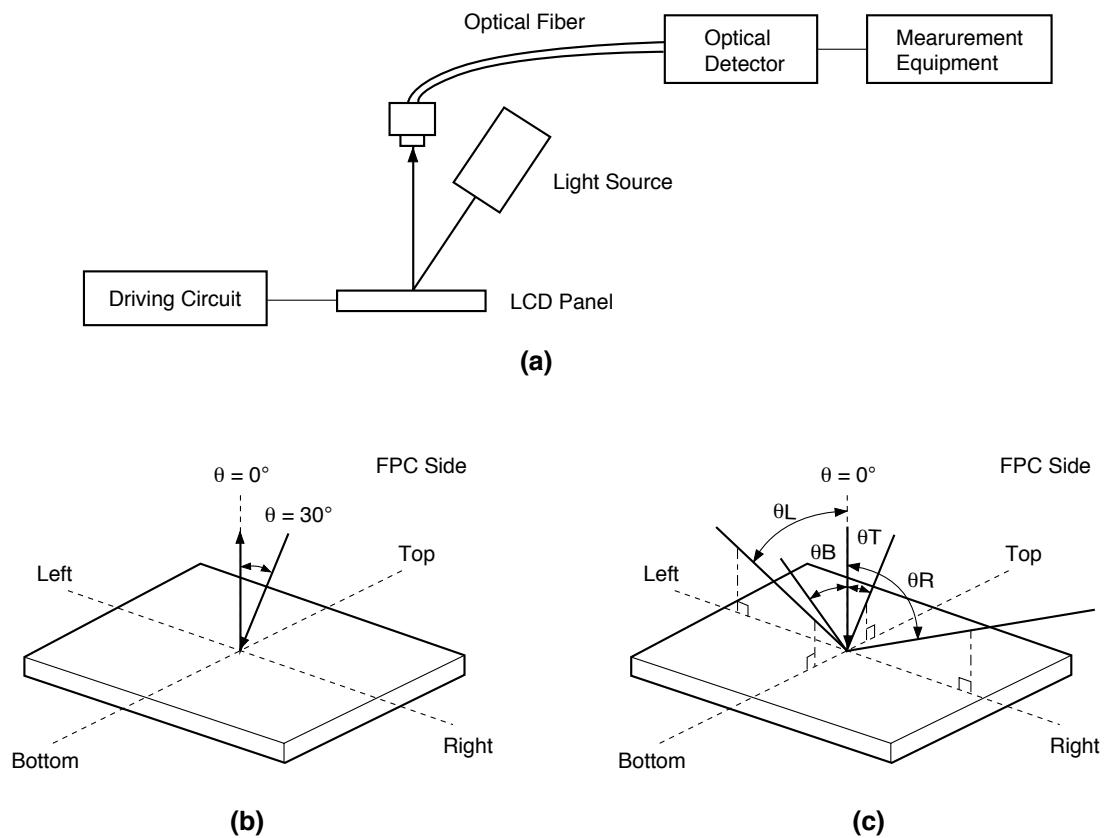

Fig. 1. Measurement System-1
1. Reflectivity (R)
In the system-1 (see Fig. 1 (a), (b)), calculate the reflectance factor by using the formula (1).
2. Contrast Ratio (CR)
In the system-1 (see Fig. 1(a), (b)), measure the reflectance factor of "White" and "Black" respectively and calculate by using the formula (2).
In the measurement system-1 (see Fig. 1 (c)), viewing area is defined by the area which makes the CR ≥ 2.
In the system-1 (see Fig. 1 (a), (b)), measure the signal amplitude across the liquid crystal where R (relative) = 90% and R (relative) = 50% and R (relative) = 10% (see Fig. 4).